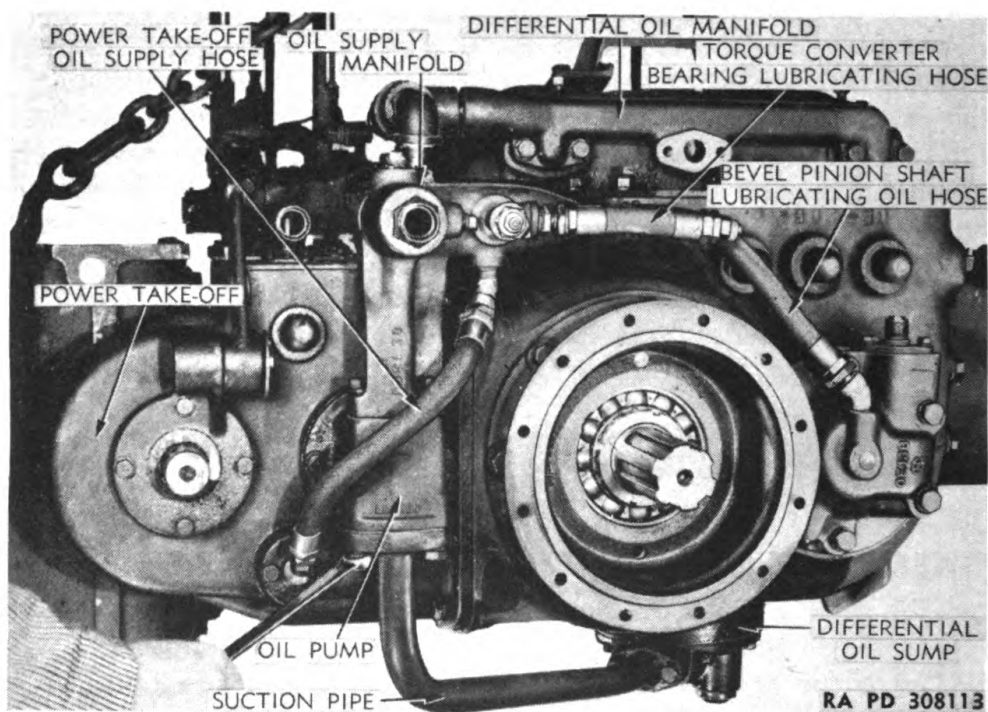

Figure 13 — Removing Oil Pump Suction Pipe
nect generator wire from terminal of ammeter and remove it from clips on instrument panel. Disconnect larger engine primer line from front of fuel tank and remove line. Disconnect air lines inside hull back of front hull post (fig. 9). Disconnect smaller engine primer line near front post of hull and lay pipes back on fuel tank. Place instrument panel under front of tractor in such a manner that instruments are protected from damage. Remove bolts from first two clips inside hull holding air lines, small primer line, and generator wire to hull on right side and lay wire and lines back on fuel tank. Remove bolt from wiring harness clip on left front hull post. Disconnect transmission vent line from fitting at top of power take-off. Disconnect wires from transmission oil pressure and temperature gage operating units on transmission oil supply manifold (fig. 13). Disconnect front converter bearing lubricating oil line from fitting on converter. Disconnect large discharge oil line from rear of transmission oil supply manifold. Remove shear pin from front winch propeller shaft universal and power take-off shaft, and the two bolts from center winch propeller shaft bearing to allow universal to be forced from power take-off shaft. Remove nuts from studs attaching converter to adapter at rear of transmission. Remove two cap screws connecting transmission oil return line to differential oil manifold at rear of differential case. Remove the two towing
b. Connect Controls, Pipes, and Wires. Connect transmission vent pipe to fittings on top of power take-off and vent tube at bottom of radiator supporting frame. Pull winch clutch control rod forward through hole in front post of hull. Connect rear end of rod to clutch lever on winch with yoke pin and secure pin with cotter pin. Using new gasket, connect transmission oil return pipe to oil manifold on rear of differential case (fig. 13) with two cap screws and lock washers. Install bolt with lock washer to attach clip supporting rear end of this pipe to bracket on converter. Slip front winch propeller shaft universal onto power take-off shaft, line up holes, and install shear pin through both. Secure with cotter pin. Attach center bearing on winch propeller shaft to side of hull with two bolts and lock washers. Connect large transmission oil discharge line to rear of transmission oil supply manifold. Connect converter bearing lubricating oil line (fig. 13) to fitting on converter. Connect wires to terminals of transmission oil pressure and temperature operating units on oil supply manifold. Connect clip on wiring harness to inside of front hull post with bolt and lock washer (fig. 9). Connect air pipes and smaller primer line pipe and secure these pipes and generator wire with clips and bolts to the first two brackets inside hull (fig. 9). Connect larger primer line pipe to fitting on fuel tank. Attach clips on pipes and wires to differential case and final drive spacer (fig. 8).
Remove four cap screws attaching oil pump suction pipe to pump and oil sump and remove pipe (fig. 13). Remove eight cap screws and remove oil sump and screen from bottom of differential case (fig. 49). Lower assembly onto a platform or blocks built so that the entire assembly will be supported on these blocks by the differential case and sprockets will clear floor. Place wedges under differential case so assembly cannot tip sideways or roll forward or back. Remove hoist chain and hoist.
c. **Remove Power Take-off Assembly From Transmission** (figs. 13 and 14). Disconnect lower end of power take-off oil supply hose from power take-off. Disconnect oil inlet hose from lower pipe elbow at rear of oil pressure relief valve. Disconnect end of transmission bevel pinion shaft oil supply hose from oil supply manifold. Remove cap screw from clip on this hose. Disconnect transmission reverse idler gear oil supply hose from fitting on left side of transmission case at bottom and rear of case. Remove the two cap screws attaching oil supply manifold to oil pump and remove manifold with attached hoses. Unhook the two brake return springs from bracket on power take-off and levers and remove them. Remove yoke pin to disconnect control rod from power take-off shifter shaft, then remove the eight attaching cap screws and lift power take-off assembly from transmission case.